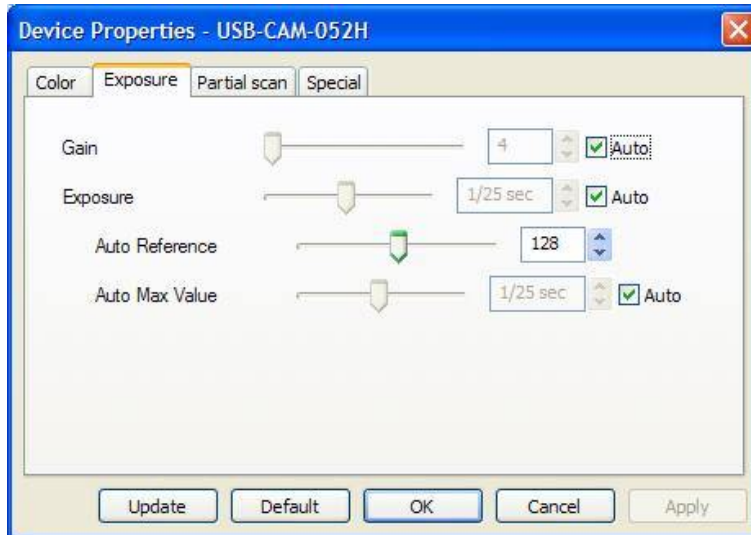

Figure 27: Camera Setting „Properties Exposure“
- Properties – Exposure (*Figure 27*)